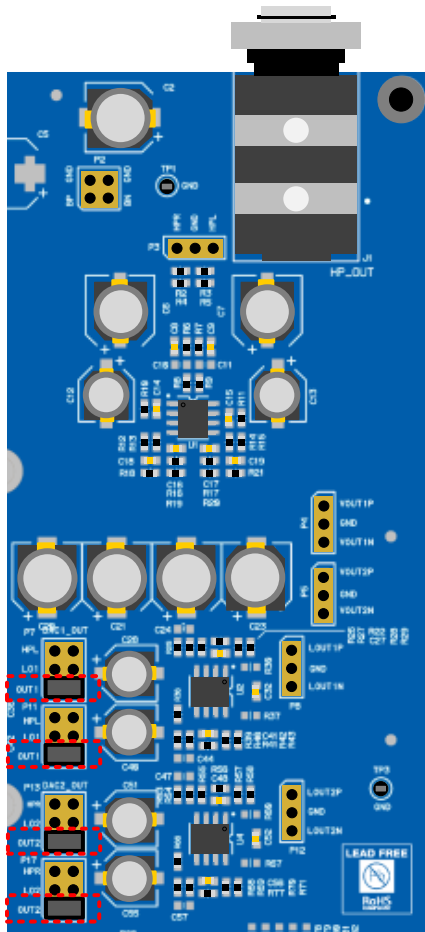

Figure 14: DAC Output to OUT1/OUT2
- OUT1/OUT2 (Default) – 2  $V_{RMS}$  output on Dunglass OUT1 and OUT2, shown in Figure 14.